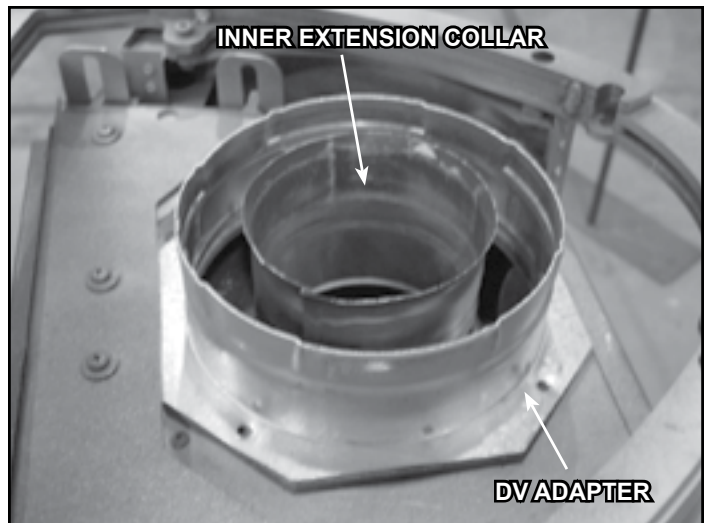

Figure 8.9
4. Remove the four screws from the DV adapter collar. (Figure 8.9) Set aside DV adapter collar, gasket and screws.
5. Remove the inner extension starter collar (Shown in Figure 8.9) and set aside.